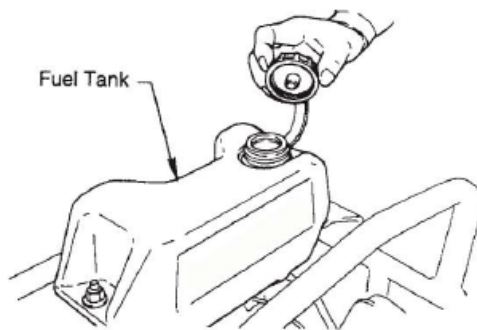

Figure 3 Fuel Tank
1. Fill the fuel tank (Figure 3) with unleaded gasoline. At the same time, check the engine oil and make it a habit to replenish it often.